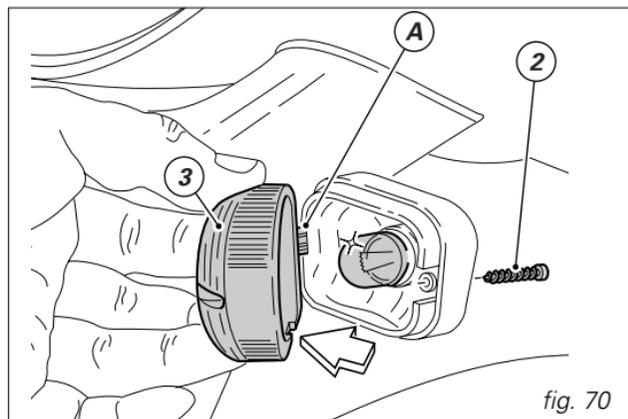

fig. 70
remove the screw (2, fig. 70) and detach the glass (3) from the indicator body holder.